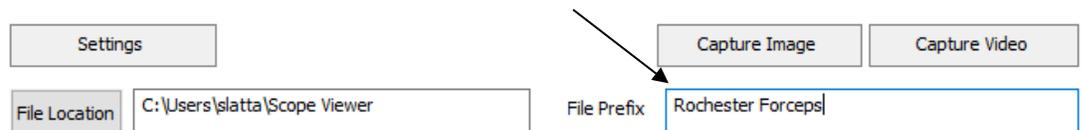

Figure 6
2. Enter the characters you would like to be included in the file name. (Fig 6).